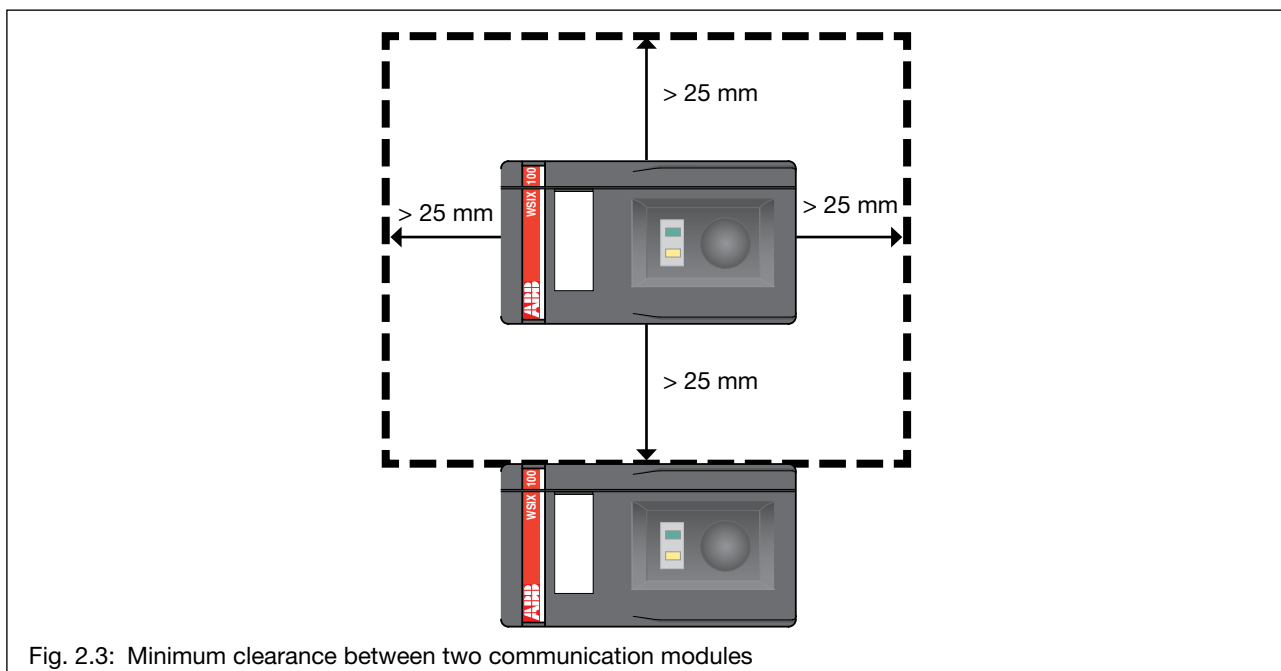

Fig. 2.3: Minimum clearance between two communication modules
- Minimum clearance between communication modules: refer to fig. 2.3.